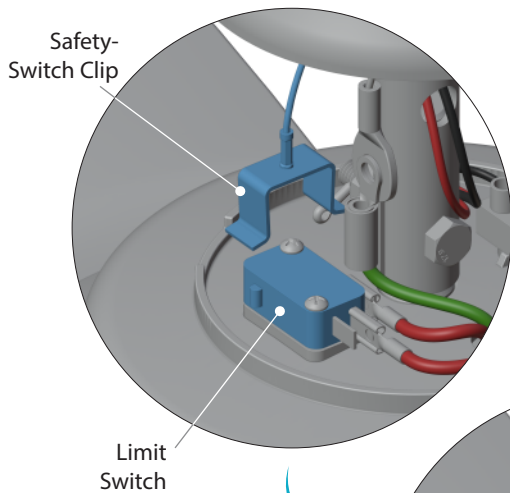

fig. 12.1
- Fix up to the end of the safety wire with the **clip** into the **limit switch** as shown in the figure. (fig. 12.1)